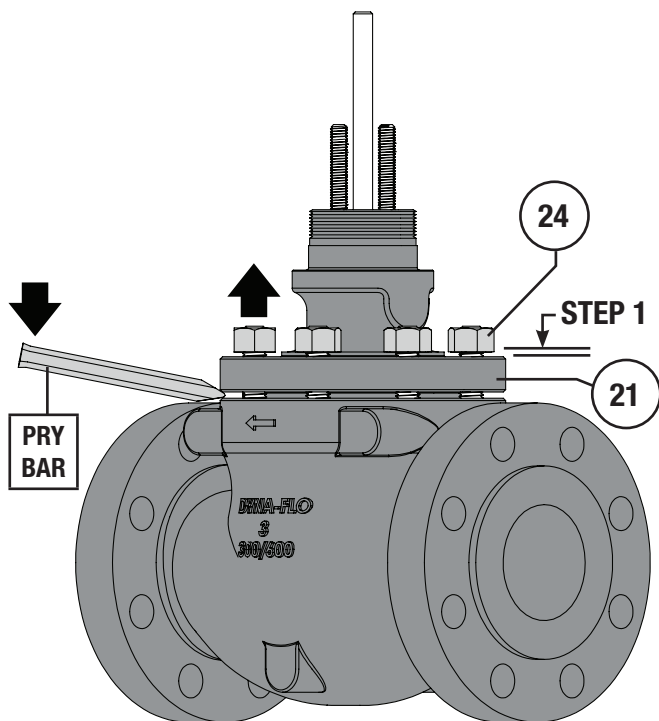

Figure 8 Bonnet Removal (Steps 1 & 2)
- 1 Loosen the bonnet nuts (Key 24) 1 full turn after contact between the nuts and the top surface of the bonnet (Key 21) has been broken. Do not remove the bonnet nuts until any trapped process pressure has been vented. Refer to Figure 8.
- 2 Break the contact between the valve body (Key 1) and the bonnet (Key 21), use a pry bar or blunt chisel to help with the separation if necessary. Refer to Figure 8.